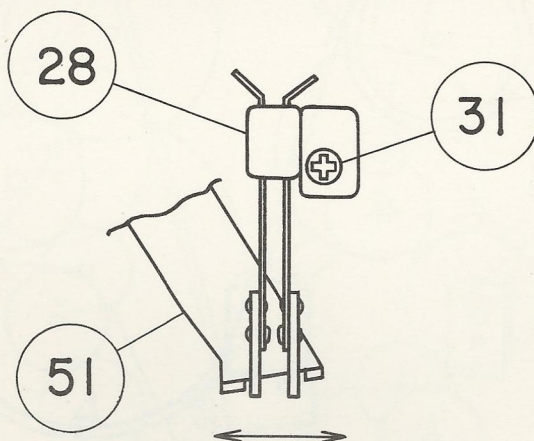

FIG. 6
2) Adjustment of main switch (Refer figure 6)